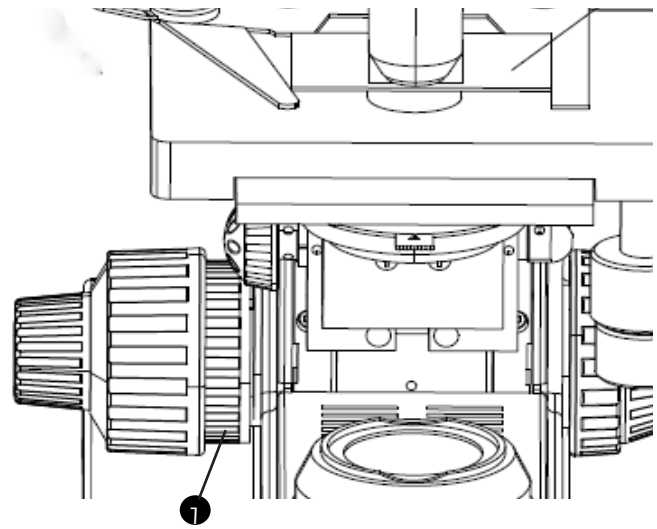

Fig. 9
If the coarse focus knob's tension is tighter than desired or the stage drifts down under normal observation, you can adjust the tension to resolve these issues by rotating the tension adjustment ring ① (See Fig. 9).